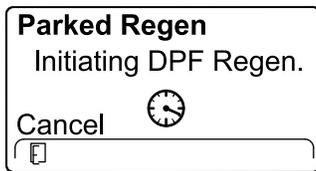

Figure 65
- At the INITIATE DPF REGEN screen, press the right button to continue (Figure 65).